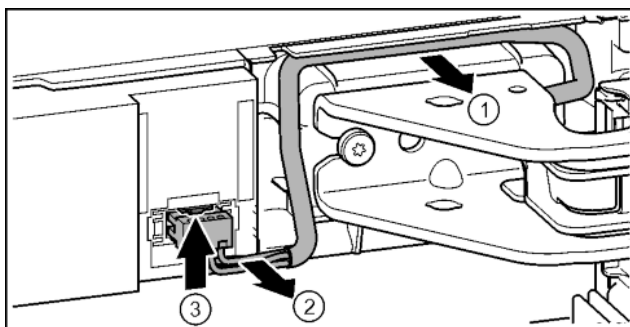

Fig. 17
- Carefully remove the cable over the bearing bracket from the guide. Fig. 17 (1)
- Carefully pull the cable strands out of the channel. Fig. 17 (2)
- Press the tab upwards and carefully remove the plug. Fig. 17 (3)